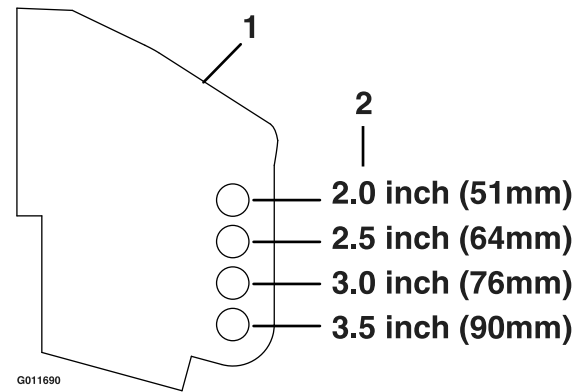

Figure 16
6. Place the rollers in one of the positions shown (Figure 16). Rollers will maintain 3/4 inch (19